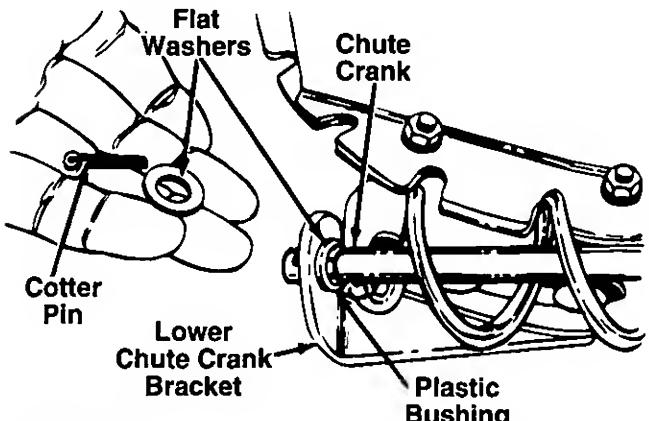

**FIGURE 4.**
1. Insert hex bolt through the upper chute crank bracket. See figure 4.